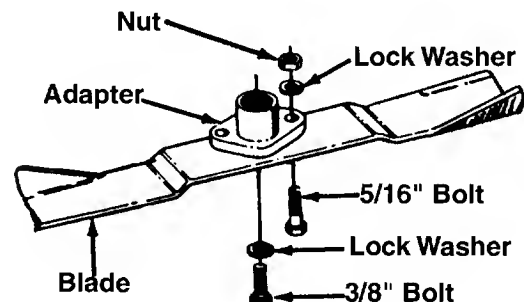

FIGURE 21B.—50" Deck
3. Remove the two 5/16" bolts, lock washers and nuts holding the blade to the adapter. See figure 21B.